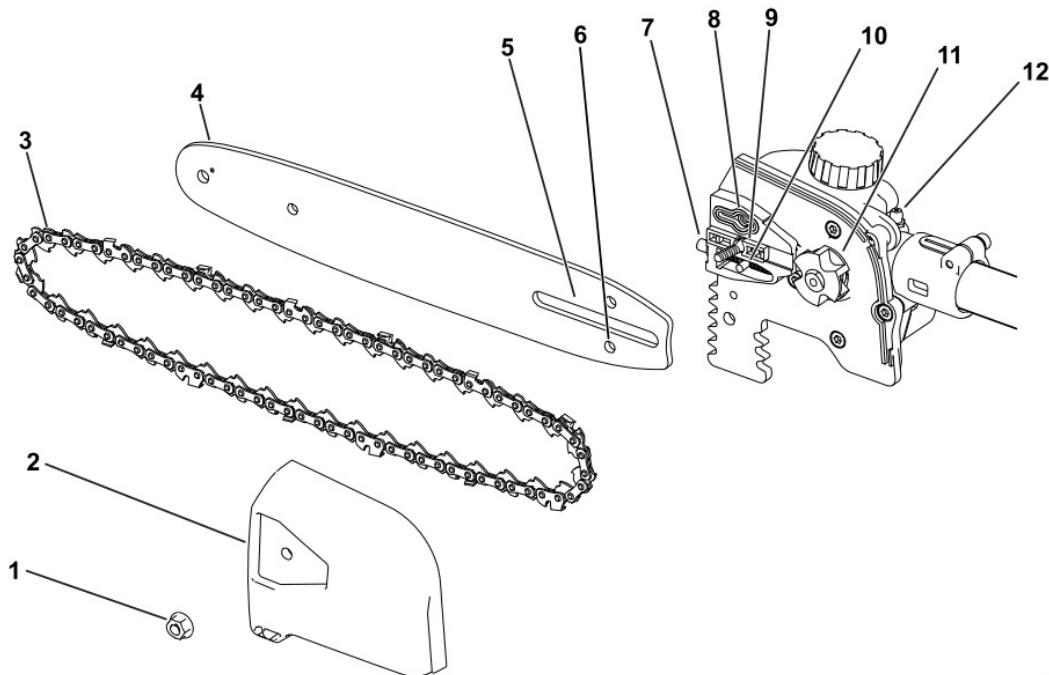

Figure 3
2. Remove the side cover; turn the bar cover screw counterclockwise until the screw is removed and then remove the side cover (**Figure 3**).
5. Position the open loop of the chain (the side not on the guide bar) around the drive sprocket on the pole saw (Figure 3).
- Important:** Ensure that the chain adjusting stud is inserted into the chain adjusting stud slot on the guide bar (Figure 3). You may need to rotate the chain-tensioning screw to fit the stud into the slot on the guide bar (Figure 14).